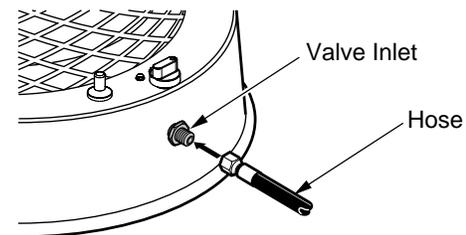

Figure 3 - Hose and Valve Inlet
3. Connect hose to the valve inlet (see Figure 3). Tighten firmly using a wrench. You must use the regulator supplied with heater even if propane tank has one.